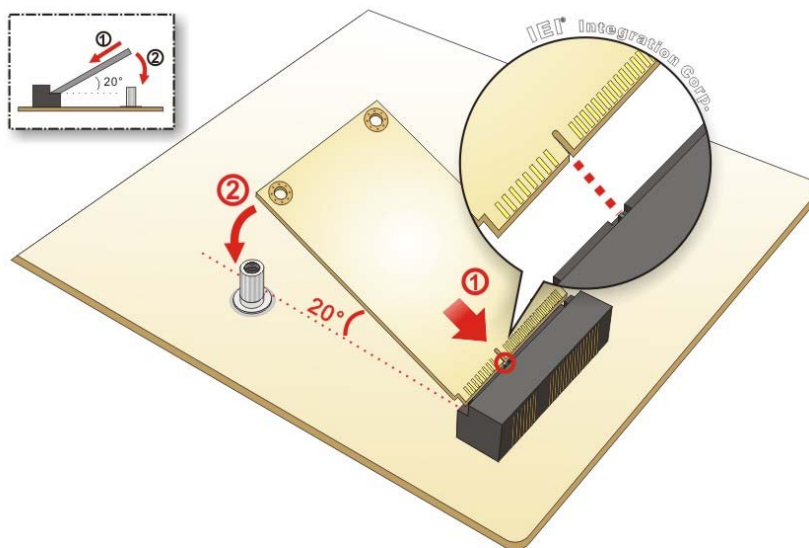

Figure 4-8: Insert the PCIe Mini Card into the Socket at an Angle
Step 3: Insert into the socket at an angle. Line up the notch on the card with the notch on the connector. Slide the PCIe Mini card into the socket at an angle of about 20° (**Figure 4-8**).